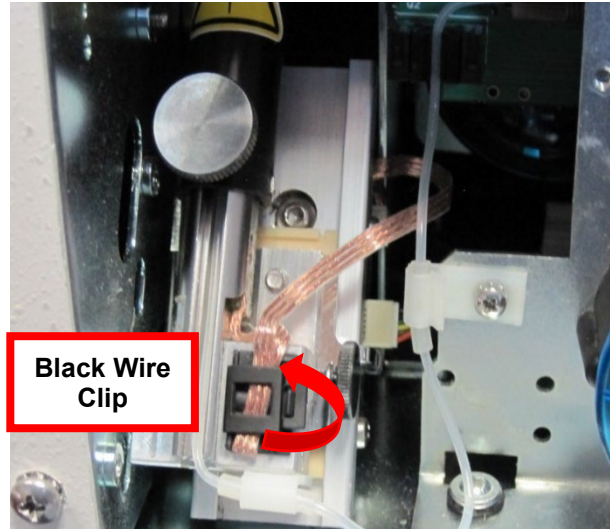

Figure 8
- 3.2. Unclip the black wire clip and remove the Probe Wire. Be careful not to damage the probe wire. Figure 8